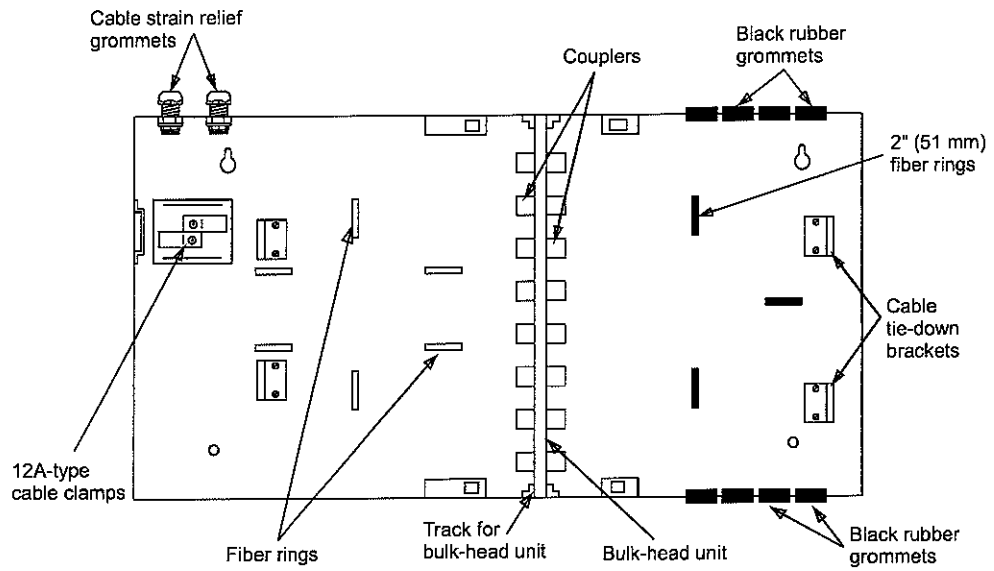

Figure 5—Parts Locations
6. Reinstall the cable clamp bracket with two 12A-type cable clamps (Figure 5).
Note: The bulk-head unit partially slides in and out of the 400A unit allowing easy access to the couplers (Figure 5). The bulk-head will not slide out of the track completely.